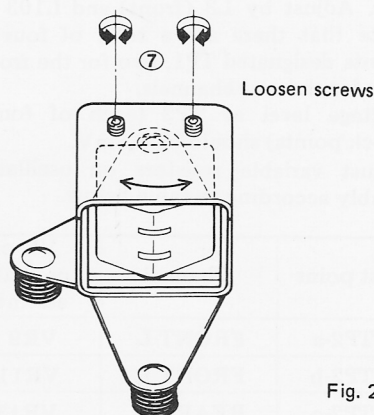

Fig. 21
3. With your fingertip, push the traveling tape against head A. If the output level increases, tape-to-head contact has not been perfect. Loosen screws 7 in Fig. 21 slightly, then slightly twist core of head A left and right against tape. Re-tighten screws.